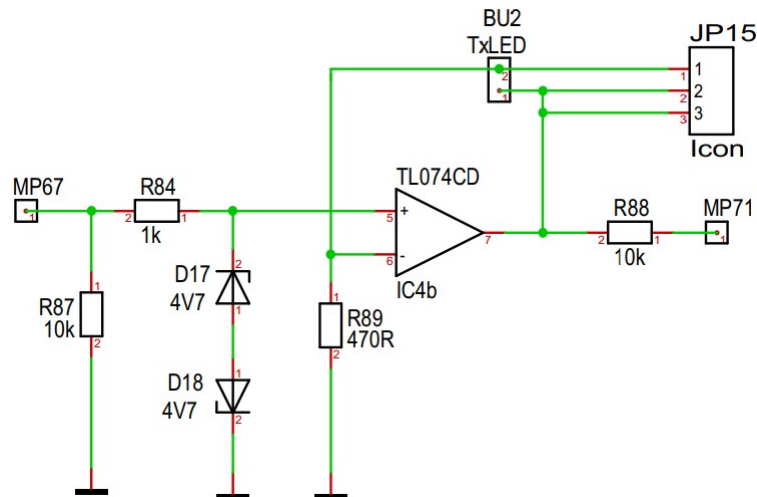
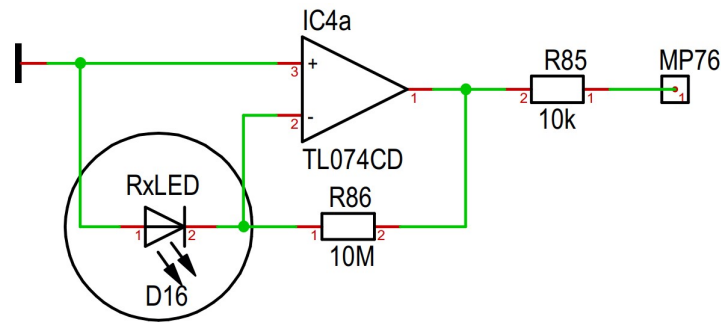

Figure 4.3.2: Schematic of the *voltage-to-current converter* circuit
Figure 4.4.2: Schematic of the *transimpedance amplifier* circuit
In the “OP-AMPLIFIER” section of the electronics board, we will use the *voltage-to-current converter* circuit (the transmitter part of the optical transceiver), shown in Figure 4.3.2.
In the “OP-AMPLIFIER” section of the electronics board, we will now use the entire optical transceiver, consisting of the *voltage-to-current converter* circuit, Figure 4.3.2 above, and the *transimpedance amplifier* circuit, shown in Figure 4.4.2 below. In this transceiver, the light emitted by the LED at BU2 (labeled *TxLED* on the board) is detected by the photodiode² at D16 (labeled *RxLED* on the board), which then provides
- (b) Now measure the output voltage V_o at the measurement point $MP76$ of the circuit in Figure 4.4.2.